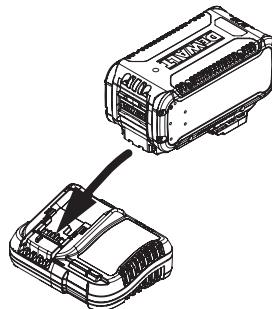

Figure 1
2. Connect the charger and battery pack (Figure 1), making sure the battery is fully seated. The (charging) light will blink continuously indicating that the charging process has started.